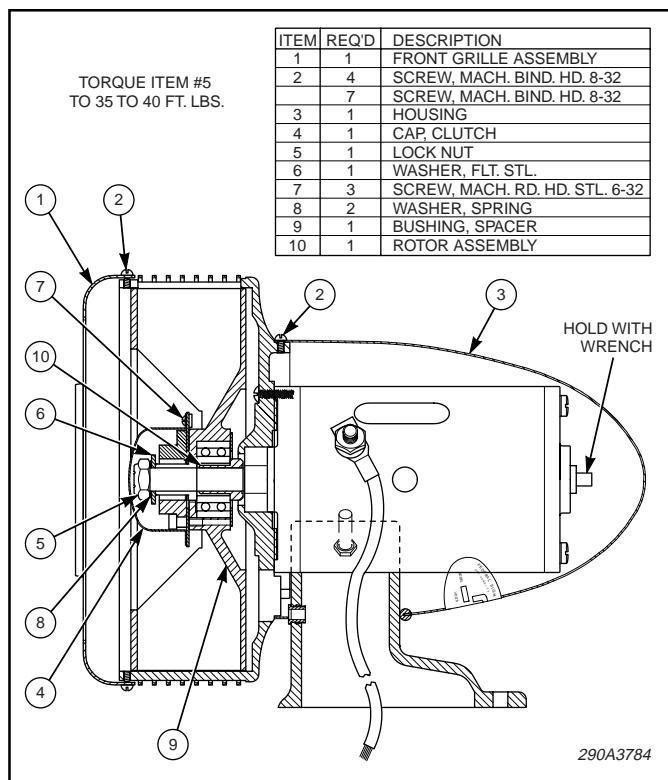

Figure 1.
To install the clutch kit, see figure 1 and proceed as follows:
9. Install the washers (flat washer first, then the spring washers) and lock nut on the front of the motor shaft as shown in figure 1.